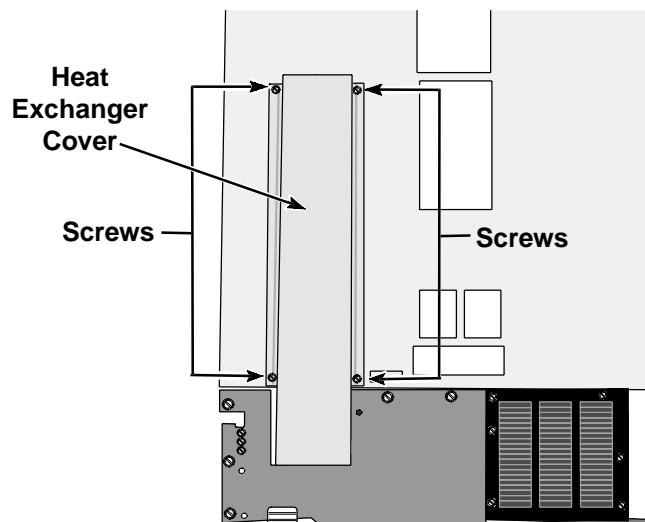

Fig. 9
The heat exchanger and wiring harness are located under the metal cover on the back of the cabinet. Remove the four (4) screws securing the cover to the back of the cabinet. (Fig. 9 & 10)